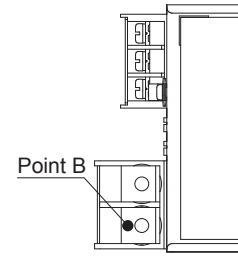

Fig.7.2 Temperature measurement point
■When wiring the load wire, select the wire in consideration of the heat generation so that the temperature of points A in Fig. 7.2 will be below the specified temperature.